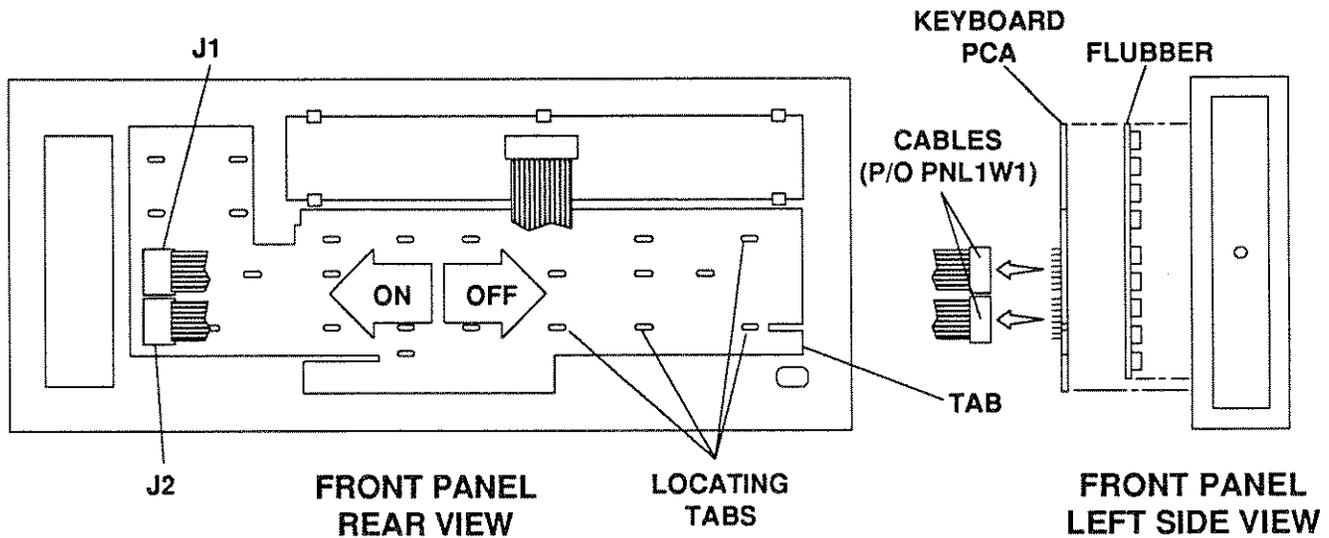

Figure 8-13. Remove and Replace Front Panel Keyboard PCA and Flubber Keys
3. Carefully disconnect the following wires/cables (see Figure 8-13):